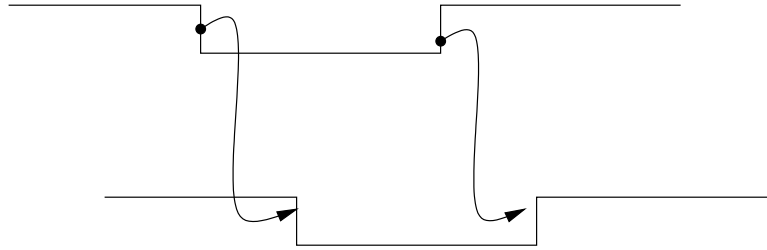

Figure 4: Cause of Signal Changes
6. Indicate situations where an edge on one signal causes a change in another signal, as shown in Figure 4.